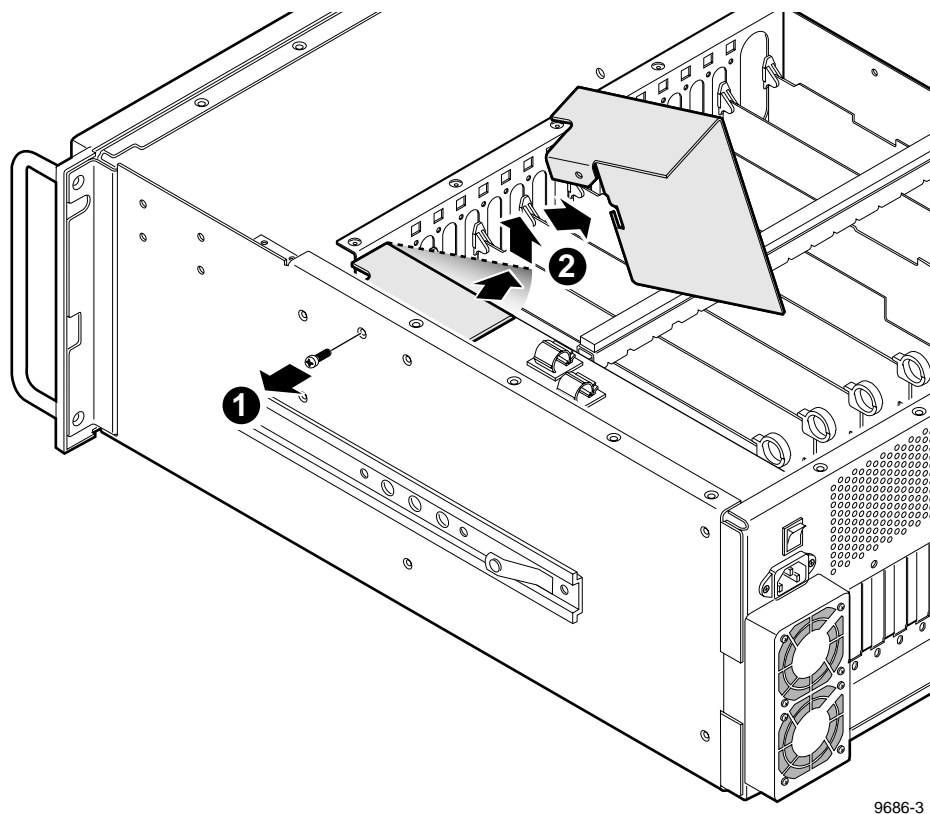

Figure 7. Removing the power supply shield
1. Use the Torx tool with the T10 tip to remove the screw which secures the shield to the chassis (❶ in Figure 7).
2. Carefully move the shield back and to the left until it can be lifted out of the chassis (❷ in Figure 7).